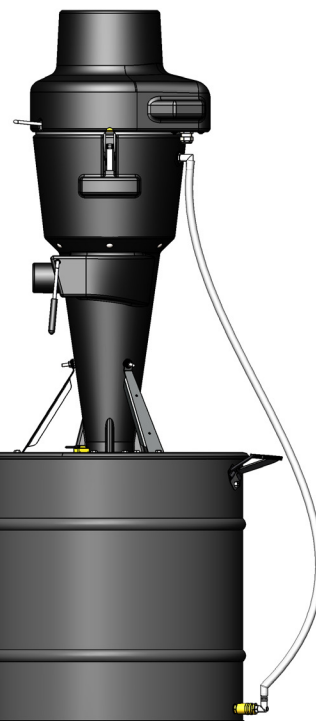

FIG. 15
- 14** Install the Clear Vinyl Tubing (F17) onto both the Nylon Elbow (F2) and the Quick Disconnect Fitting (I). [FIG. 15]